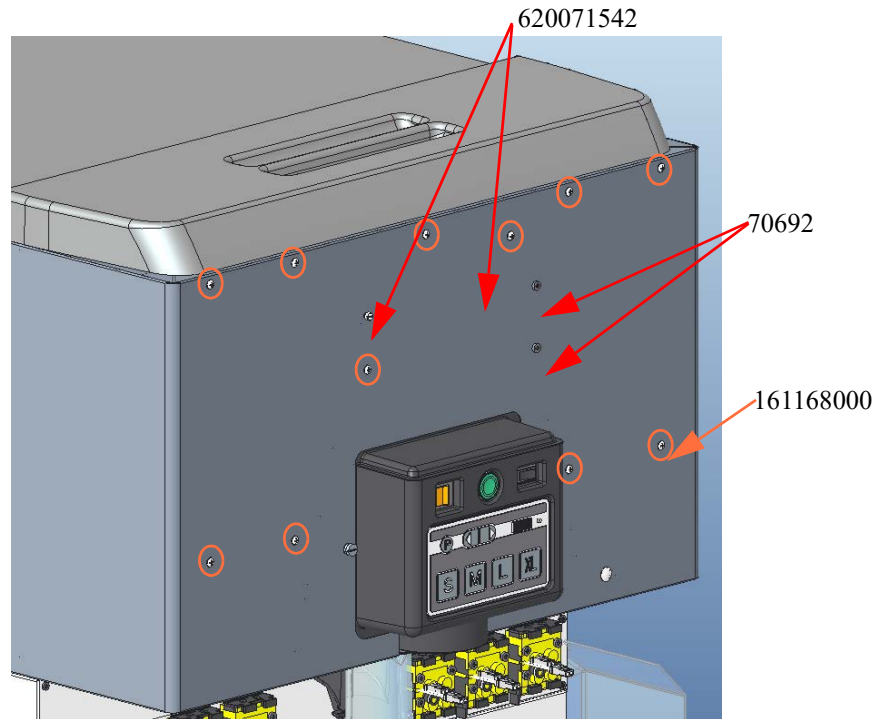

Figure 16.
- If any of the adapter brackets are unused, ensure respective screws holes are covered with suitable screws as shown in Figure 16.